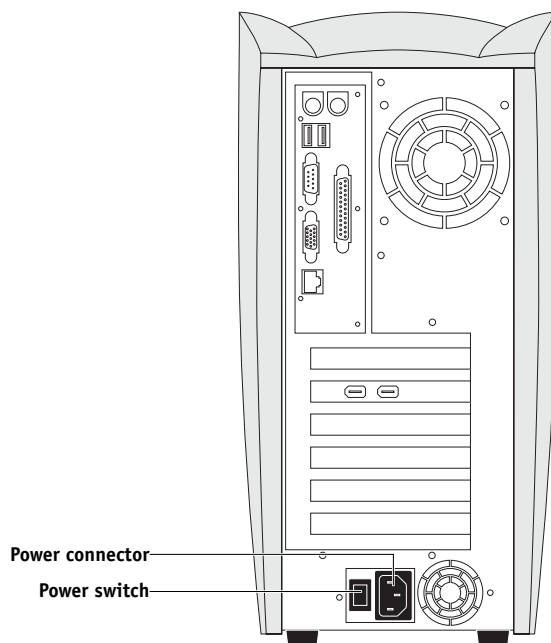

FIGURE 3-1 Pi8500Pro power
6. **Connect the female end of the power cable to the power connector at the back of the Pi8500Pro (see Figure 3-1).**